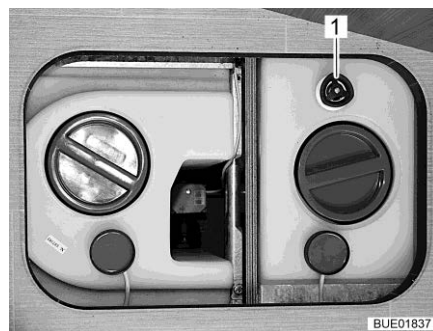

Fig. 194 Water tank with rotary handle
- Turn the rotary handle (Fig. 194,1) on the water tank in a clockwise direction as far as it will go.
- Turn the rotary handle (Fig. 194,1) on the water tank in an anticlockwise direction as far as it will go. The water drains away except for a residual amount of 20 l.